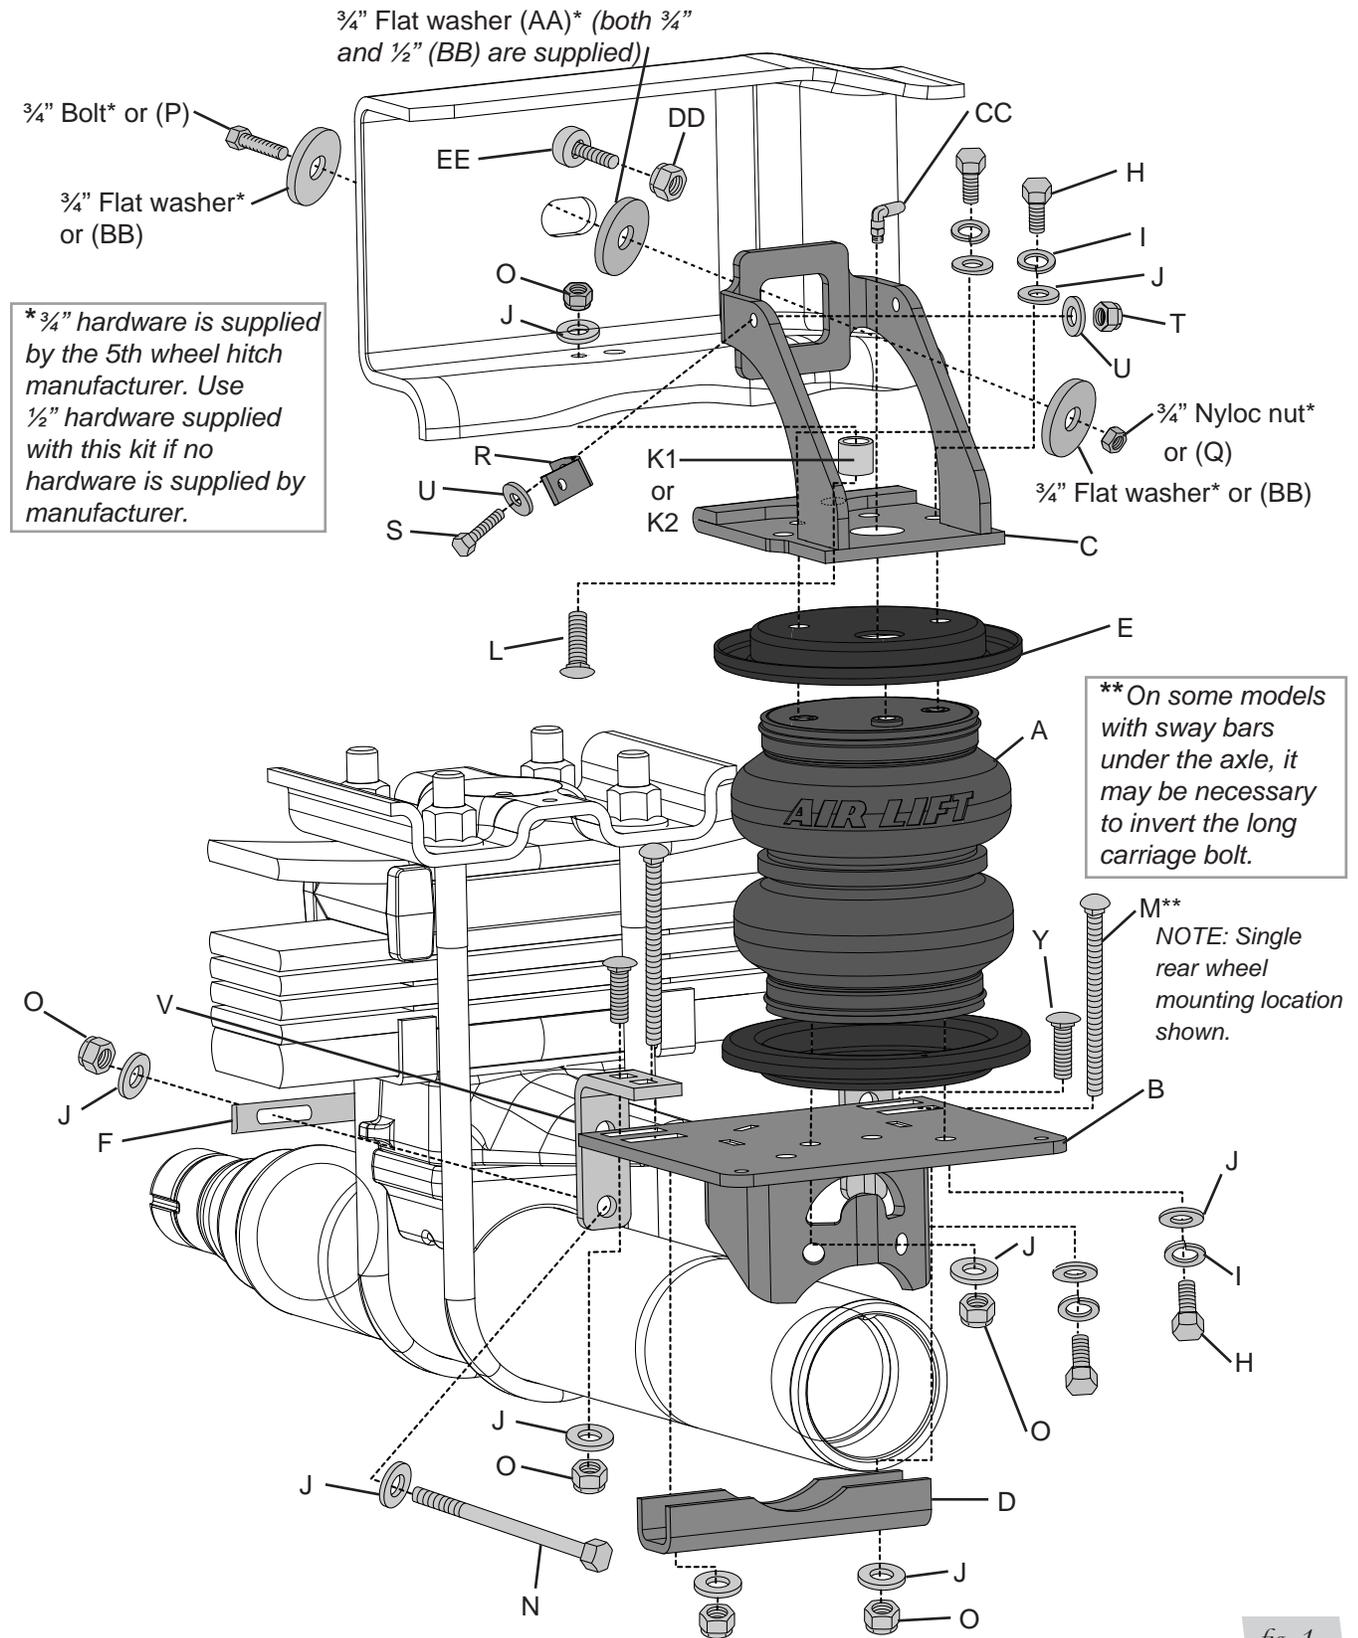

fig. 1
\*Not shown in figs. 1, or 2.
4. In order to obtain clearance between the upper bracket and the emergency brake cable bolt, on the inside of the frame, it will be necessary to remove the bolt and re-insert through the emergency brake cable bracket, from the outside of the frame in. Install the spacer (EE) on the bolt and cap with the new nut (DD) (fig. 1). Tighten hardware securely.
- Set a roll plate over the top and bottom of the bellows (A) (fig. 1).
The radiused (rounded) edge of the roll plate (E) will be towards the bellows so that the bellows is seated inside both roll plates (fig. 1).
The insert for the fitting on top of the bellows points inward (refer to fig. 1 or fig. 2).